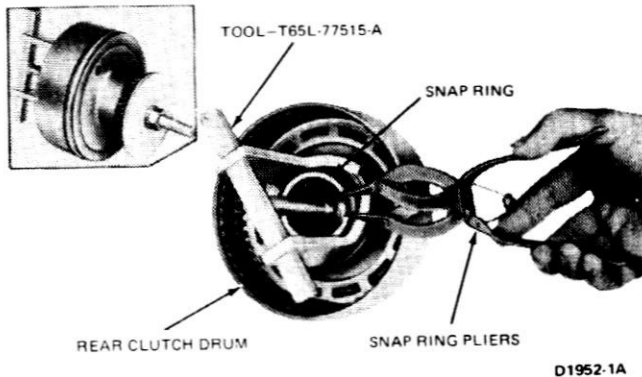

FIG. 39 Removing Rear Clutch Spring Snap Ring
2. Compress the spring with the tools shown in Fig. 39, and remove the snap ring.
5. Install the tool on the spring retainer as shown in Fig. 39. Compress the clutch spring, and install the snap ring. **While compressing the spring, guide the retainer to avoid interference of the retainer with the snap ring groove. Make sure the snap ring is fully seated in the groove.**